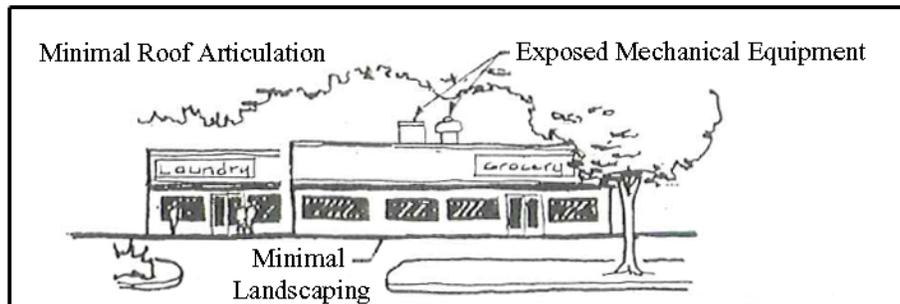

Figure 17
- b. Flat Roof - Equipment on roof shall not be visible from an elevation that is horizontal to the location of the roof equipment. Flat roofs may be used provided that a porch, portico, arcade, or other similar element shall be located at the main entrance(s). Figure 17 depicts unacceptable roof articulation.